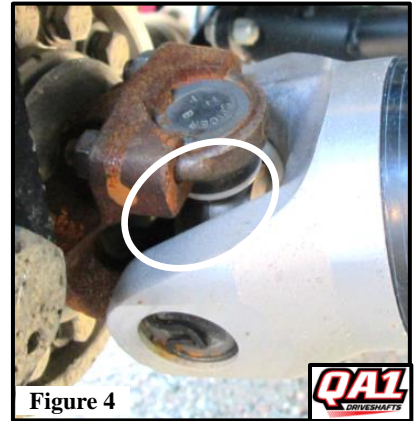

Figure 4
- c) Note in **Figure 4** where the U-bolts can crash under extreme deceleration or acceleration conditions. This is where to watch for interference between the U-bolt and tube yoke.